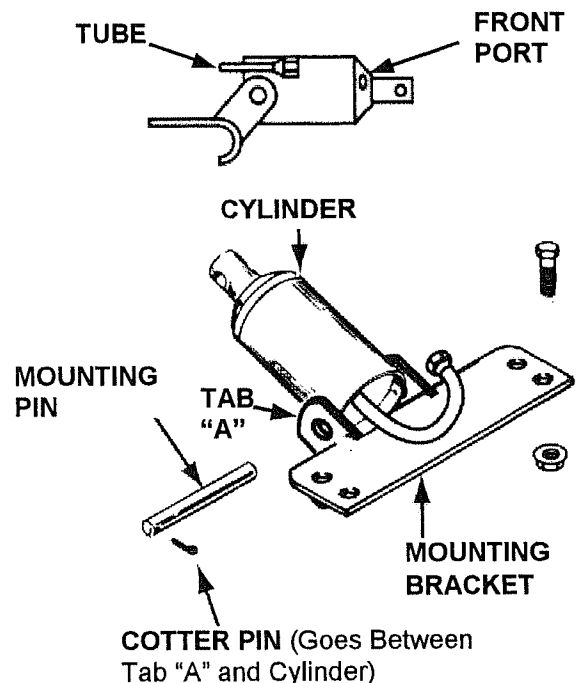

FIGURE 6
6. (See Figure 6) Assemble cylinder and mounting bracket as shown. Use 1/2" x 3.81" mounting pin and 1/8" x 1" cotter pin. Make sure that tube is facing to the side.